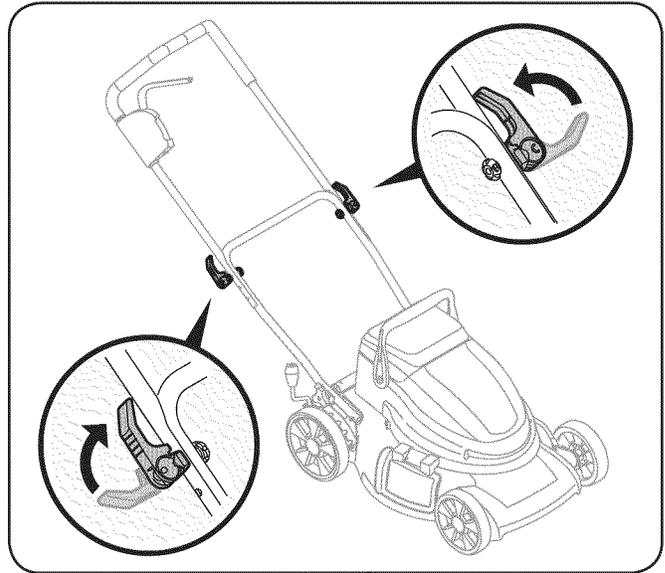

**Figure 3-3**
5. Place the upper handle onto the lower handle, keeping the motor cord over the handles. See Fig. 3-3.
**NOTE:** Make certain the clips on the clamp retainers are inside the grooves of the clamp seats. See Fig. 3-3 inset.
4. Insert toggle clamps packed separately with the mower into the holes for the selected height. See Fig. 3-3.